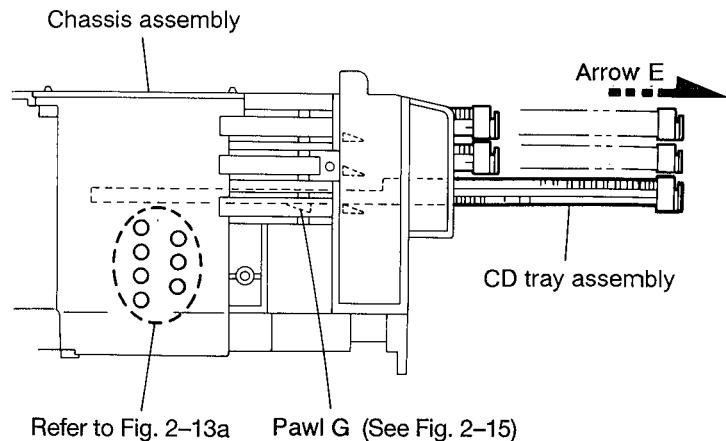

Fig. 2-12
14. Pull out all of the three stages of CD tray assembly in the arrow direction (E) until these stages stop (See Fig. 2-12).